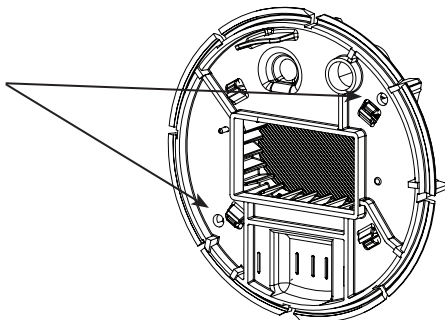

FIGURE 9: Pin Holes on Back of Optic Cage Base (PD models only)
- After cleaning with compressed air, line up the two pins on the back of the optic cage base to the pin holes on the circuit board to place the optic cage base on the circuit board (FIGURE 8 and FIGURE 9)